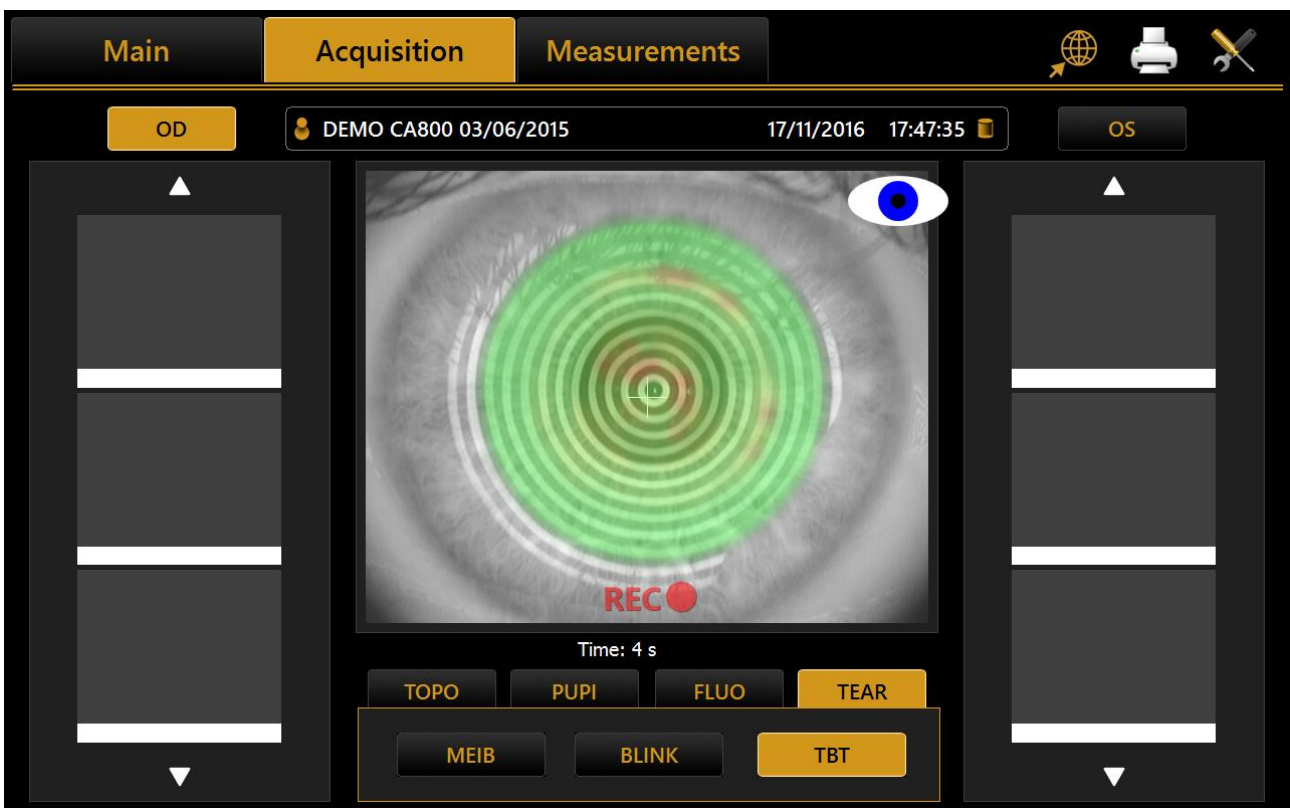

Fig. 41
4. The blink is automatically detected by the device and the analysis of the Tear Film behavior starts. During the Tear Film analysis the area of Placido rings is divided in polar sectors and analyzed. The sectors where significant variations are detected are colored with a green/yellow/red scale depending on the amount of variation (Fig. 41).